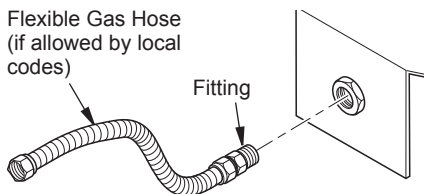

Figure 11 - Attaching Flexible Gas Hose to Heater
1. Apply pipe joint sealant lightly to male threads of gas fitting (provided with VRL models only). Connect approved flexible gas hose to fitting in base (see Figure 11). **IMPORTANT:** Hold gas fitting with wrench when connecting flexible gas hose.